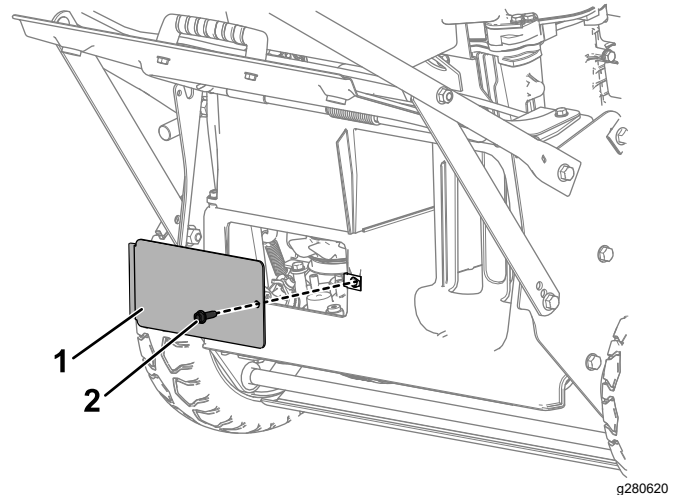

Figure 45
8. Remove the rear-viewing window, located under the rear-discharge deflector, by removing the bolt holding it in place (Figure 45).